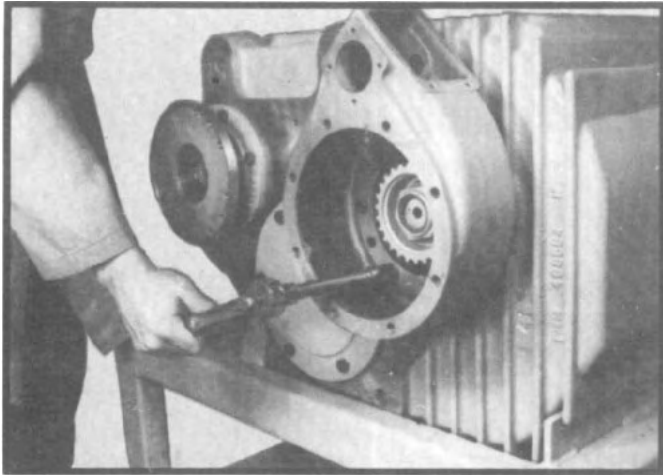

Fig. 173
Note: The PTO and declutch assemblies are similar except for the manner in which the housings are bolted to the transfer case. See figs. 173 and 174 for mounting of appropriate housing.
1. Bolt PTO/declutch housing and gasket to main case with six capscrews. Be sure to align oil passages. Tighten capscrews to correct torque. (See fig. 173)